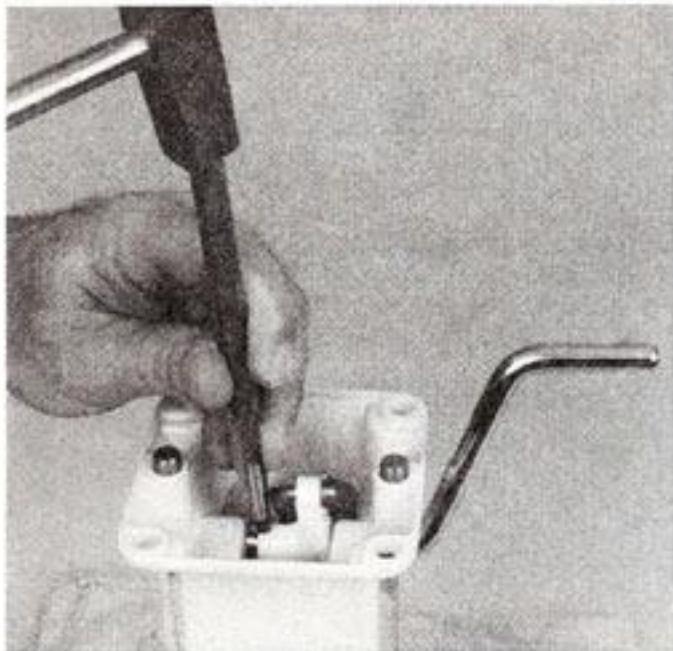
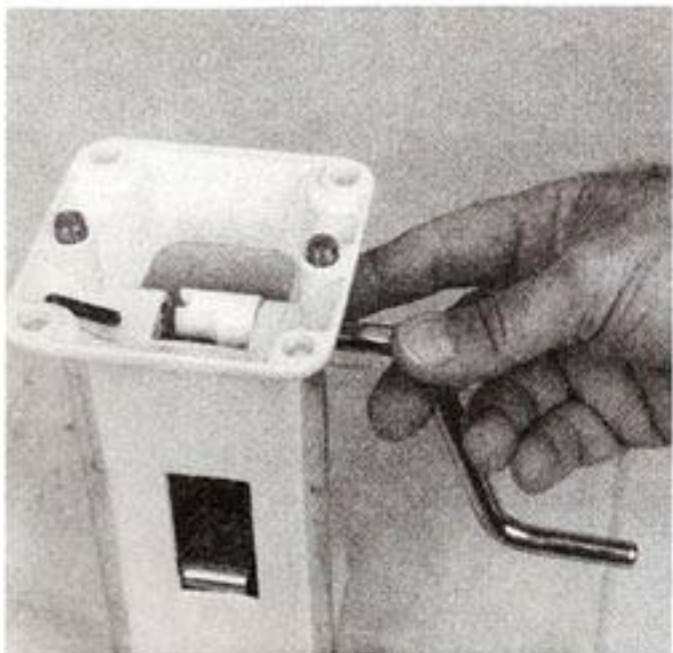

Fig. 91
Fig. 92
- G. To install a new bowl lift arm, drive out the taper pin (Fig. 91). Drive from the small end of the pin. With pin out, pull out the bowl lift handle (Fig. 92). The bowl lift arm can now be removed along with the bowl lift mechanism.